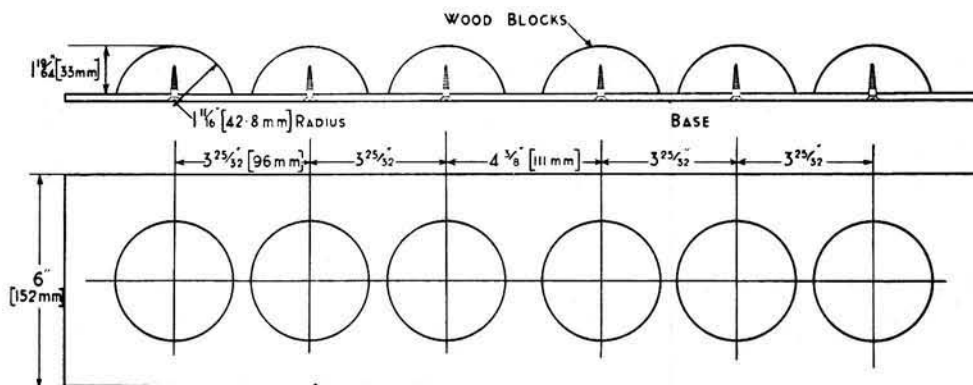

Fig.1.10. Wooden block to support valves
- 2 Make up a wooden block as illustrated in Fig 1.10 to support the valves when compressing the springs.